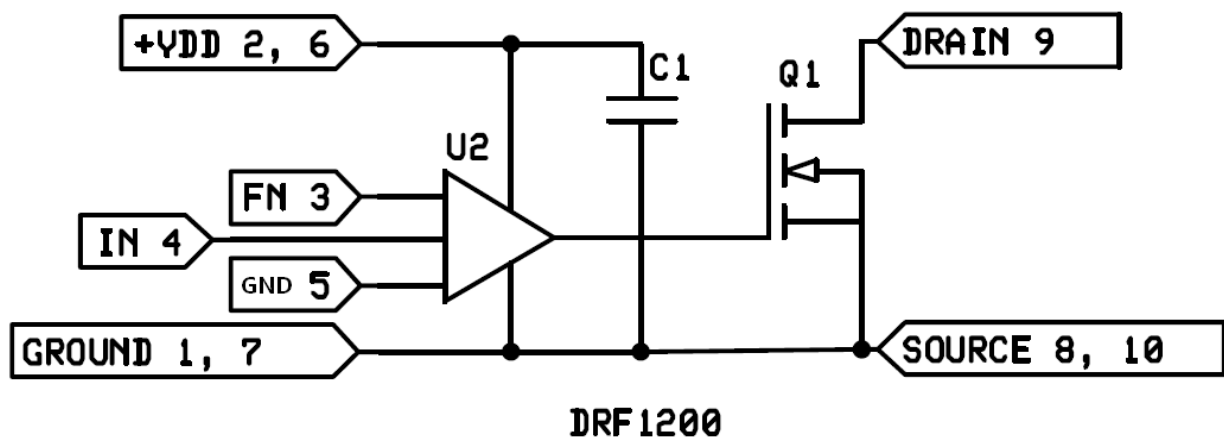

Figure 1. DRF12XX
Figure 1 shows a simplified circuit diagram for the DRF12XX series of devices. The Hybrid consists of a MOSFET Driver and Power MOSFET. The control signal is applied to internal driver through pin 4 (IN) and referenced to pin 5 (GND) a Ground return. The pin 3 (FN) allows the user to select either Invert or Non-inverting mode. The output of the driver is internally applied to the gate of the Power MOSFET. The logic diagram for the hybrid is shown in Table 1. For more information on the specific DRF12XX, refer to the device data sheet.